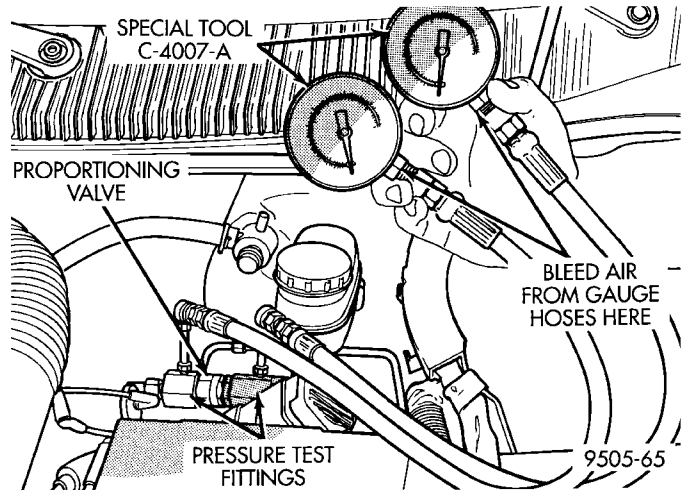

Fig. 28 Pressure Gauges Installed On Pressure Test Fittings
(8) Install a Pressure Gauge, Special Tool C-4007-A into each pressure test fitting (Fig. 28). Bleed air out of hose from pressure test fitting to pressure gauge, at pressure gauge to remove all trapped air. hose.
(9) With the aid of a helper, apply pressure to the brake pedal until reading on proportioning valve inlet gauge, is at the pressure shown on the following chart. Then check the pressure reading on the proportioning valve outlet gauge. If proportioning valve outlet pressure does not agree with value shown on the following chart, when inlet pressure shown on chart is obtained, replace the proportioning valve. If proportioning valve is within pressure specifications do not replace proportioning valve.
(10) Check rear wheel brake shoe linings for contamination or for replacement brake shoes not meeting OEM brake lining material specifications. These conditions can also be a possible cause for a premature rear wheel skid.